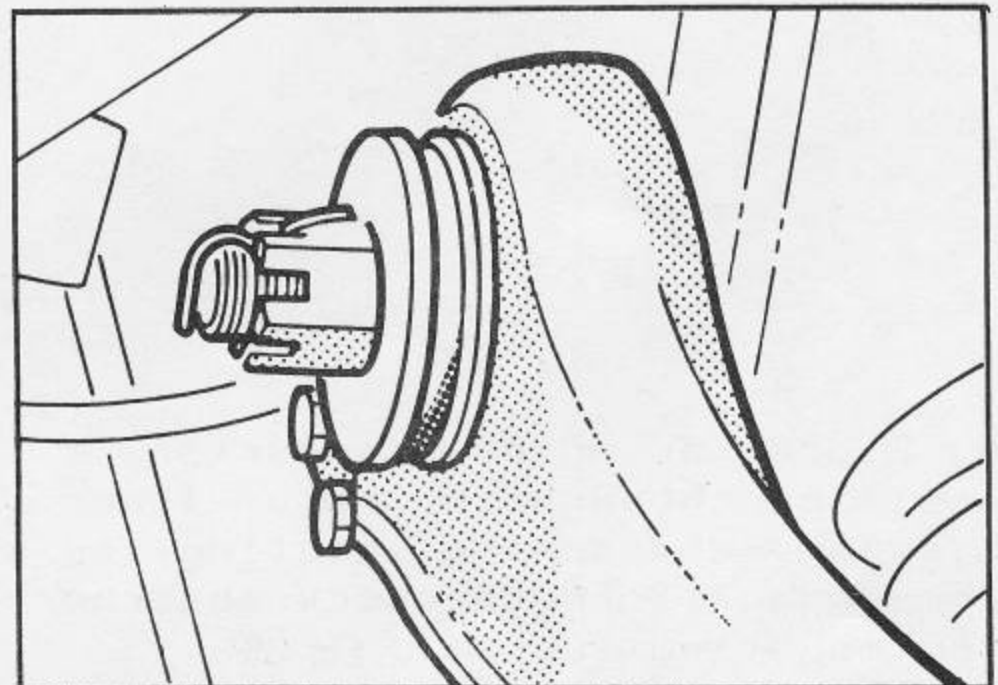

Fig. 42
8. Remove upper arm pivot bolt split pin, nut and washer. Drift out the pivot bolt which retains the arm to the chassis and remove the arm. Fig.42